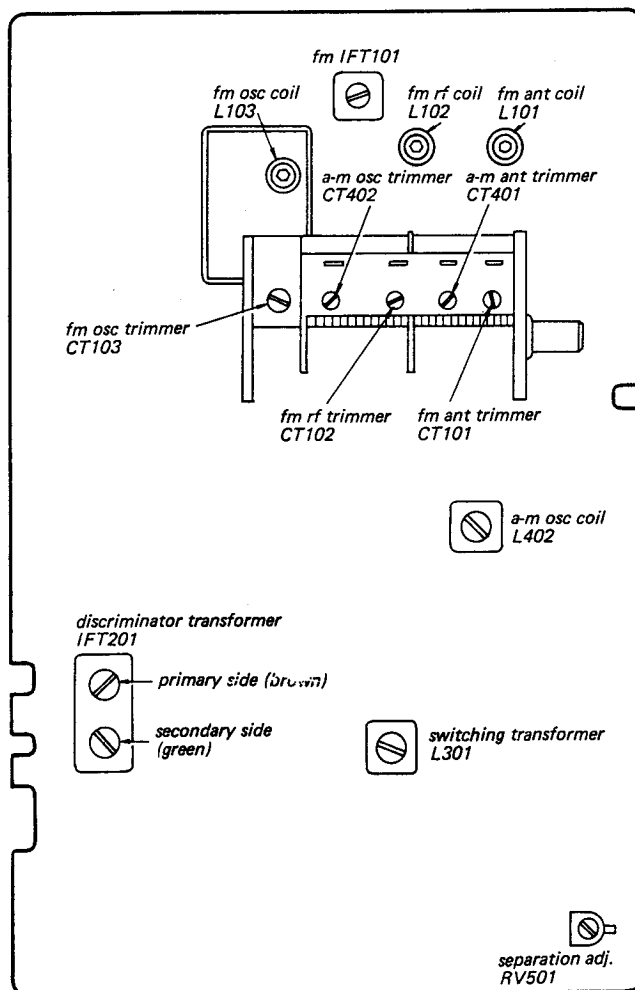

Fig. 3-10. Adjustment parts location
7. Turn the core of fm IFT101 and primary side core (brown) of discriminator transformer IFT201 (see Fig. 3-10) to obtain the maximum output.
| 1 | 87.5 MHz | 87.5 MHz | NORMAL OUTPUT jack (J802) | OSC coil L103 See Fig. 3-10. | Maximum VTVM reading |
| 2 | 108 MHz | 108 MHz | | OSC trimmer CT103 See Fig. 3-10. | |
| 1 | 87.5 MHz | 87.5 MHz | NORMAL OUTPUT jack (J802) | Antenna coil L101 RF coil L102 See Fig. 3-10. | Maximum VTVM reading |
| 2 | 108 MHz | 108 MHz | | Antenna trimmer CT101 RF trimmer CT102 See Fig. 3-10. | |
1. Precisely tune the set to the carrier frequency of stereo signal generator, then turn the top core of switching transformer L301 (see Fig. 3-10) to obtain maximum output at the left channel. Note that this adjustment has a close relationship with stereo distortion.
4. The output-level to residual-level ratio represents the separation. Adjust separation adj. control RV501 (see Fig. 3-10) for minimum residual level. Check the right channel for separation. Usually, about an 8 to 9 dB difference in channel separation exists. Readjust RV501 for minimum difference between left- and right-channel separation. While
| 1 | 550 kHz | 550 kHz | NORMAL OUTPUT jack (J802) | OSC coil L402 See Fig. 3-10. | Maximum VTVM reading |
| 2 | 1,600 kHz | 1,600 kHz | | OSC trimmer CT402 See Fig. 3-10. | |
| 2 | 1,400 kHz | | | Antenna trimmer CT401 See Fig. 3-10. | |